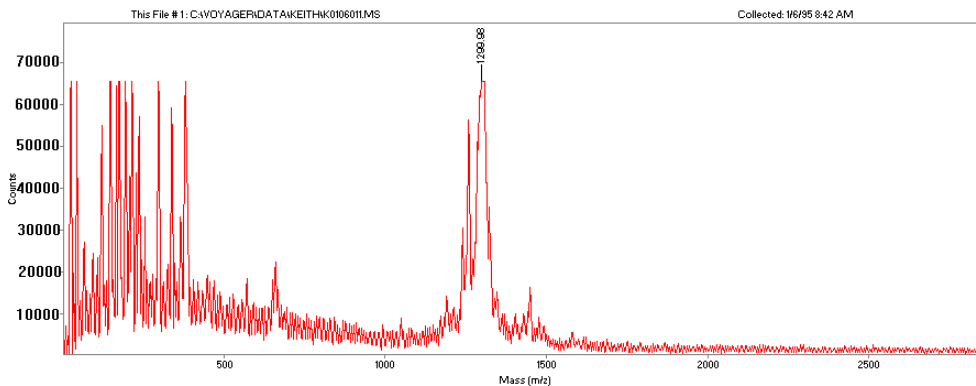

Figure H-5 Saturated Spectrum
2. Start an acquisition and acquire about 10 spectra. At this high laser setting, you may see a saturated spectrum where peaks are full scale and may be truncated (Figure H-5).